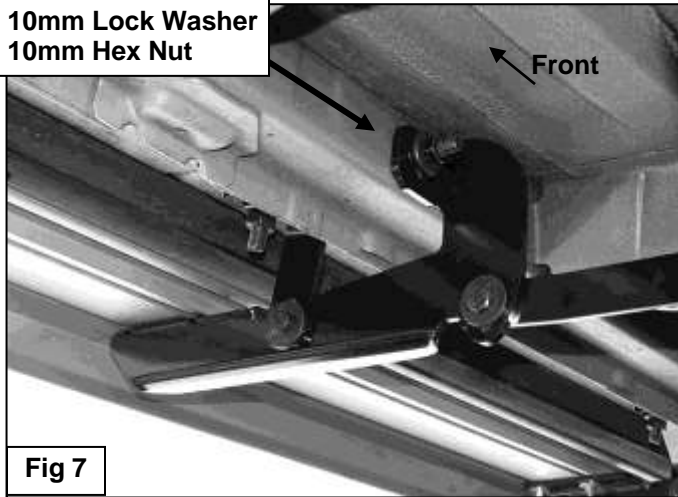

Fig 7
8. Select the passenger side Front Mounting Bracket. Attach the Bracket to the Bolt Plate in the back of the frame channel first with (1) 10mm Flat Washer, (1) 10mm Lock Washer and (1) 10mm Hex Nut, **(Step 6, Figure 7)**. Attach the Mounting Bracket to the back of the previously installed "L" Support Bracket with (1) 8mm x 30mm Hex Bolt, (2) 8mm Flat Washers, (1) 8mm Lock Washer and (1) 8mm Hex Nut, **(Figures 7 & 8)**. Do not tighten hardware at this time.